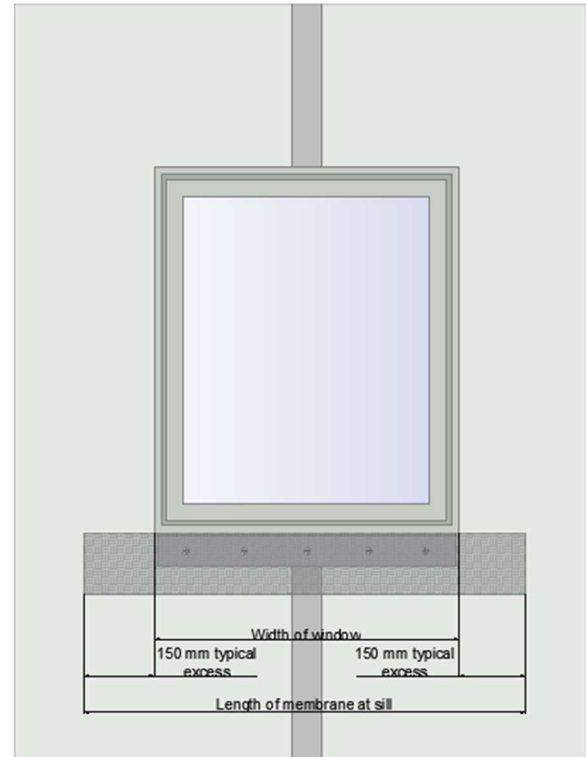

Figure 2
- For the membrane length, measure the window frame width and add a 150 mm excess at each side of the frame and cut to required length. (Figure 2).